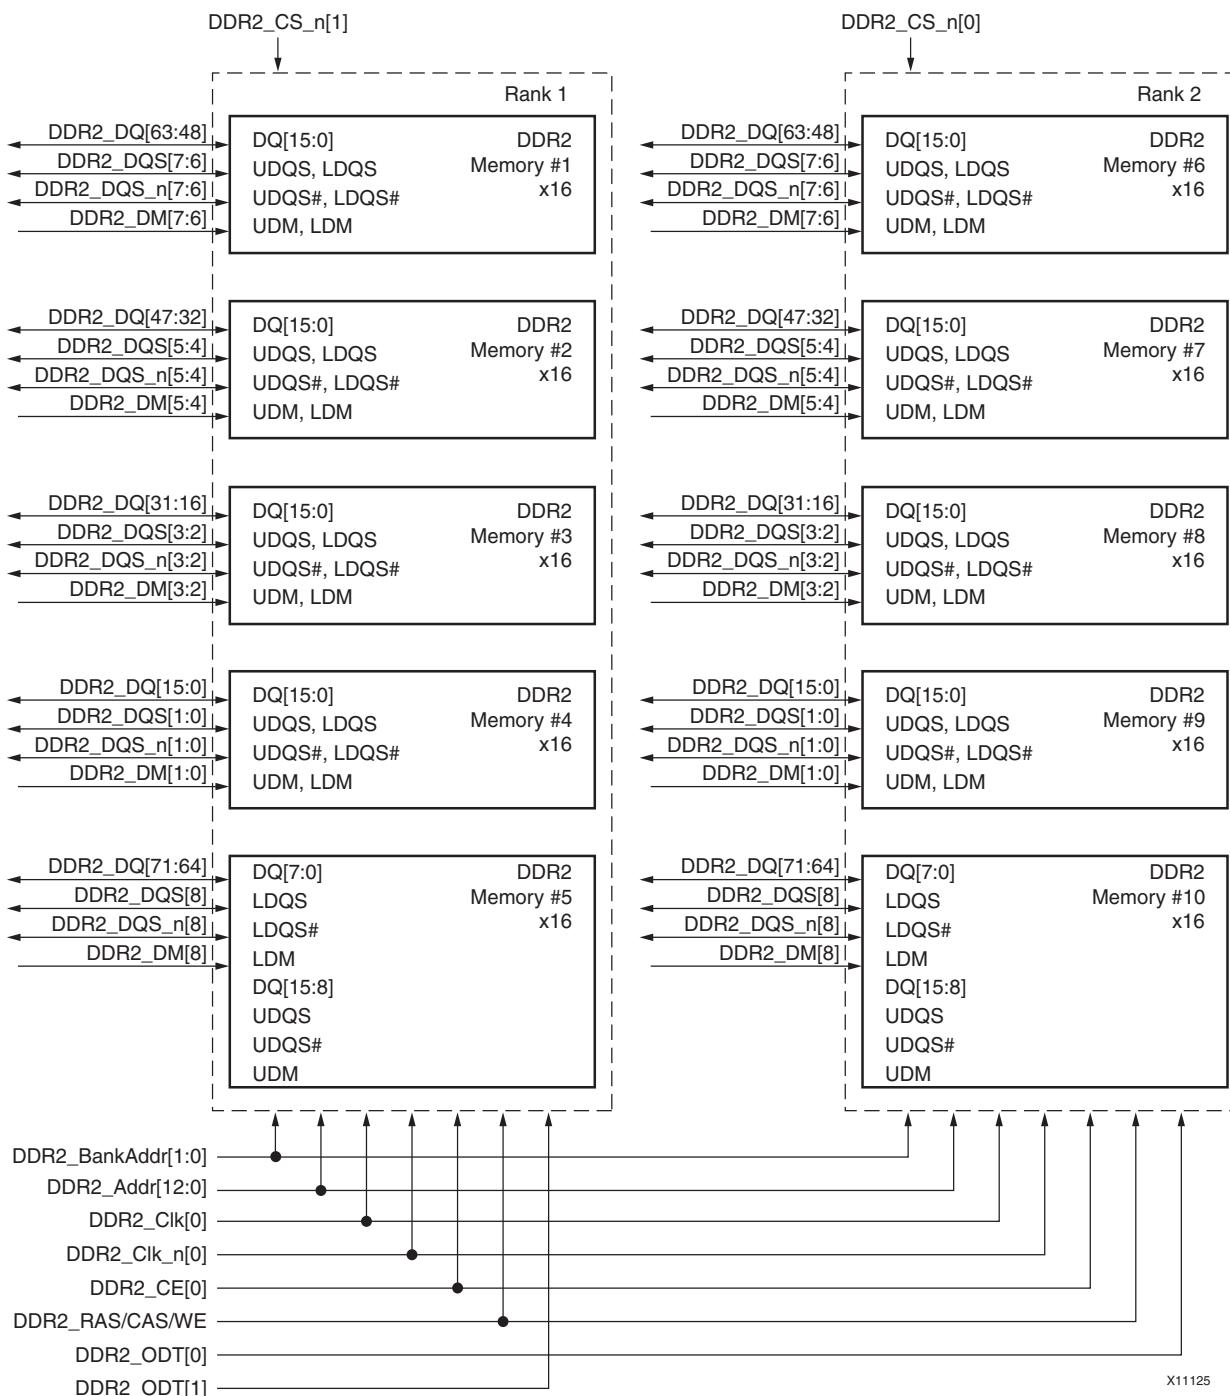

Figure 9: Example DDR2 Memory Connections
The example in Figure 9, page 96 has the following specified parameters:
- Within a particular rank, the signals DDR2_CS_n and DDR2_ODT are connected to each memory in the rank. Some memory manufacturers have specific recommendations for how these signals should be connected. For example, when using a dual rank DIMM, the recommendation might be to assert DDR2_ODT on the same rank that DDR2_CS_n is asserted (as shown in Figure 9, page 96). Other recommendations might be to assert DDR2_ODT on to opposite rank that the DDR2_CS_n is asserted, which can be achieved by swapping DDR2_ODT[0] and DDR2_ODT[1].